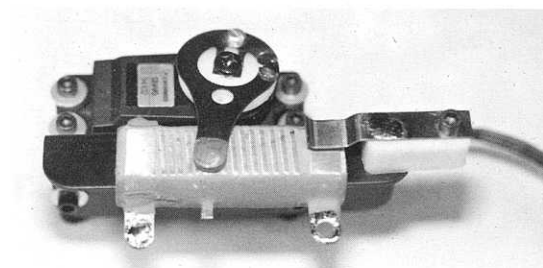

Fig. 140
12) In the same bag you will find the #6714 brass throttle bypass tab and one #6924 4-40 x 3/8" socket head cap screw. 13) Secure the bypass tab to the #6714 mount using the #6924 screw, making sure the bent portion of the tab is over the resistor. The #6712 wiper arm button is designed to fit snugly between the resistor and the #6714 bypass in order to make a better electrical connection. Your assembled throttle servo and resistor will look like fig. 140.